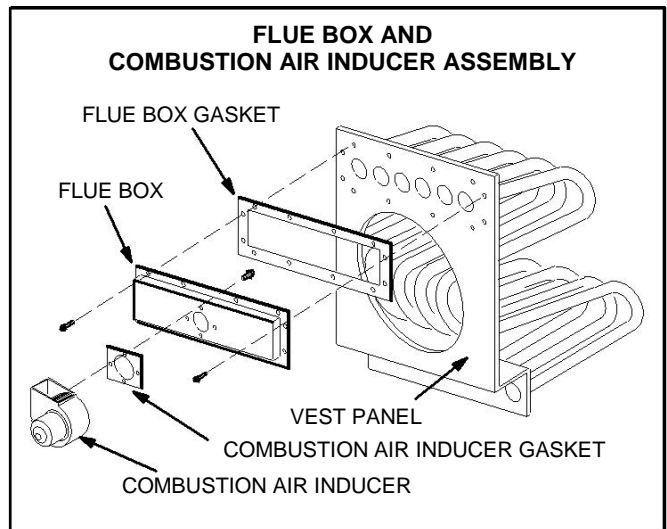

FIGURE 2
- 3 - Before making an electrical or gas connections, remove the securing screws on the flue box/combustion air inducer. See figure 2.
- 1 – All HED duct heaters are to be used with NFPA- or ANSI- approved chimneys or U.L.-listed type B-1 gas vents where applicable, as well as the modifications and limitations listed in figure 2. Seal single-wall vent material according to **General Recommendations and Requirements** section.